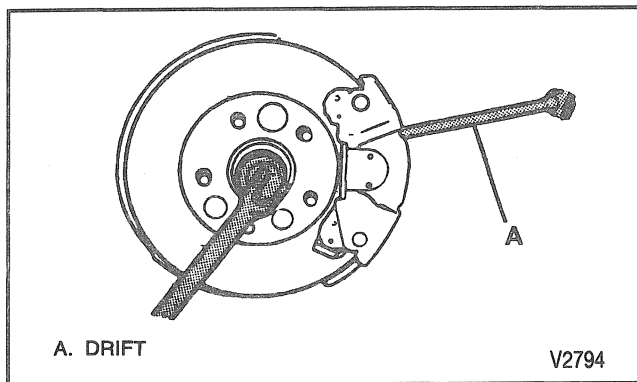

Figure 6—Holding Shaft in Place
- Insert a drift or large screwdriver through the brake caliper into one of the brake rotor vanes to prevent drive axle (halfshaft) from turning (Figure 6).